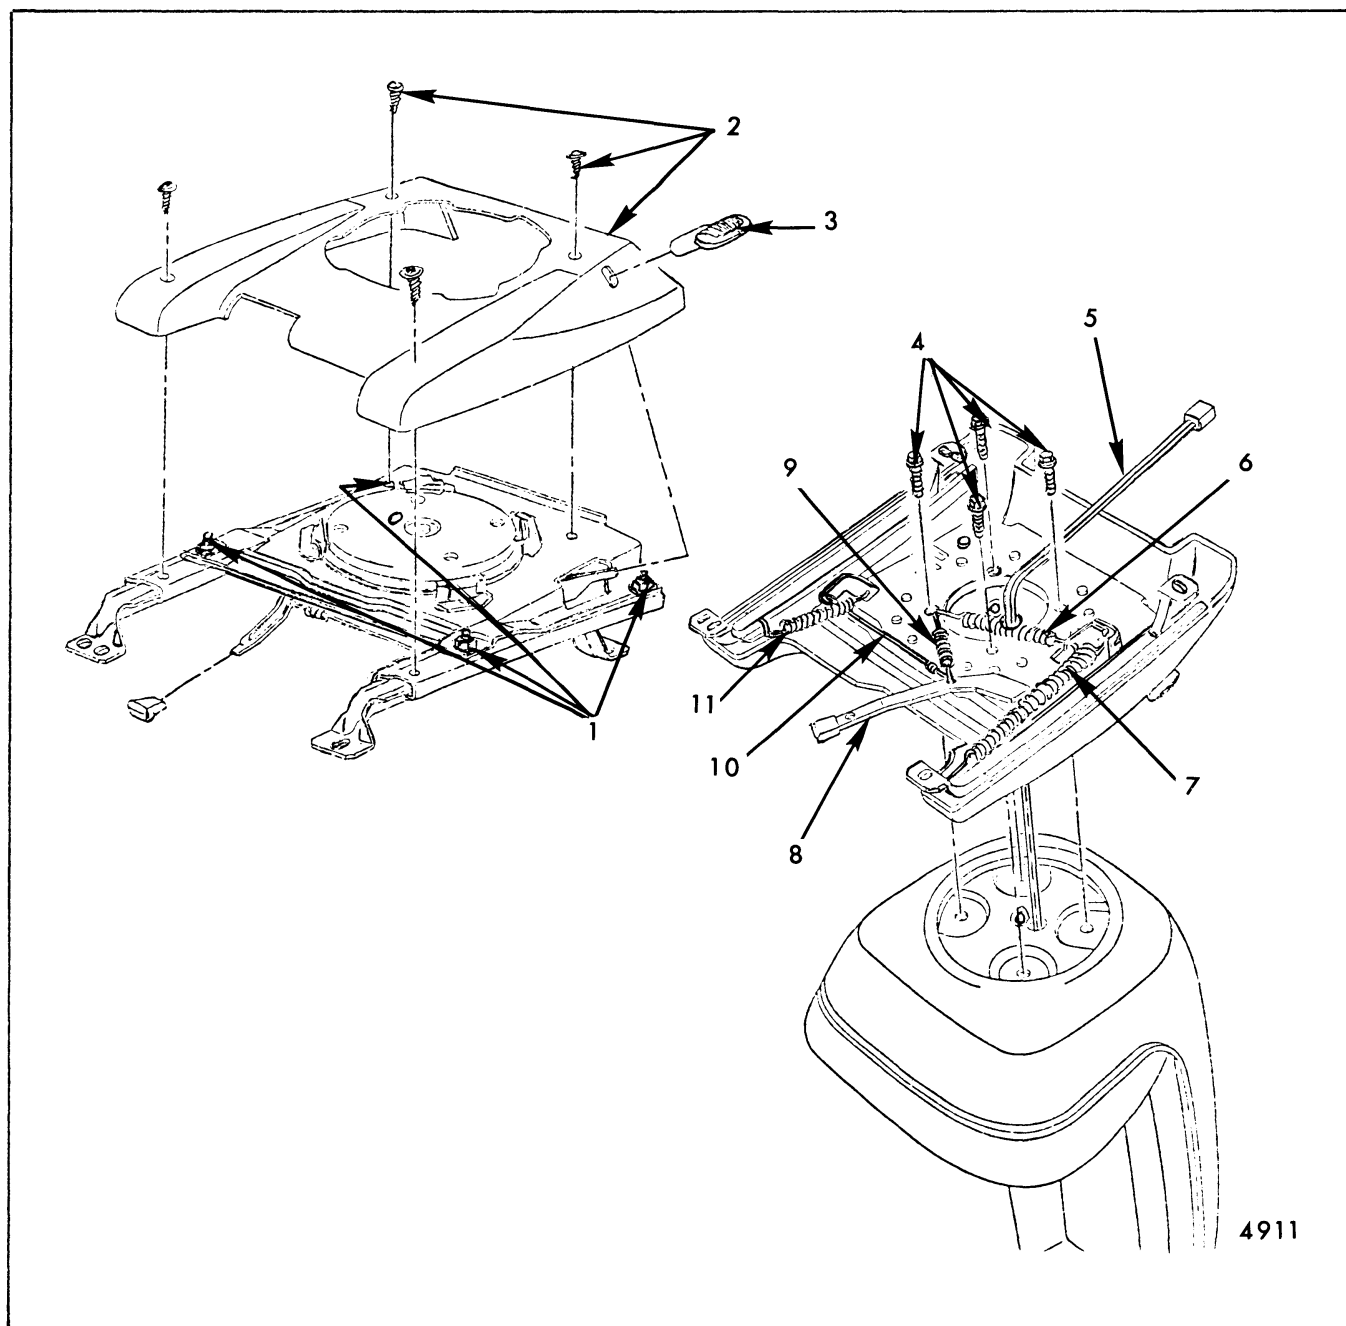

Fig. 9-20-Swivel Shell Bucket Seat, Swivel and Adjuster Cover, Swivel Assembly and Adjuster Assembly
2. With swivel mechanism in forward position remove four bolts, through access holes in bottom of swivel assembly (Fig. 9-20, Item 4), securing seat to swivel assembly; then, remove seat from swivel. If removing passenger seat, carefully feed lap belt warning buzzer and light wire through hole in swivel plate and swivel base plate.
3. Remove swivel and adjuster plastic cover attaching screws (Fig. 9-20, Item 1).
4. Raise inboard side of cover up sufficiently to start slot in cover over base of swivel control knob; then, rotate cover rearward sufficiently (approximately 90 degrees) to pull slot in cover over and off wide portion of control knob (Fig. 9-20, Item 3).
- a. If removing adjuster assembly from swivel assembly disengage all springs and control wire from adjuster being removed (see Fig. 9-20).
- a. If removing adjuster assembly, remove two swivel-to-adjuster attaching nuts (Fig. 9-20, Item 1) and remove adjuster assembly.
- b. If removing swivel assembly, remove all four swivel-to-adjuster attaching nuts (Fig. 9-20, Item 1) and remove swivel assembly from adjusters.